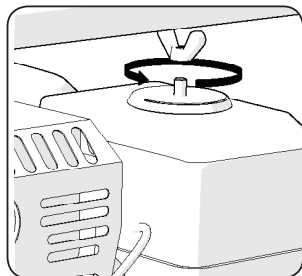

Fig 21
- Unscrew the wing nut from the Air Filter housing and remove it and its large plate washer and rubber sealing gasket. **(Fig. 21)**